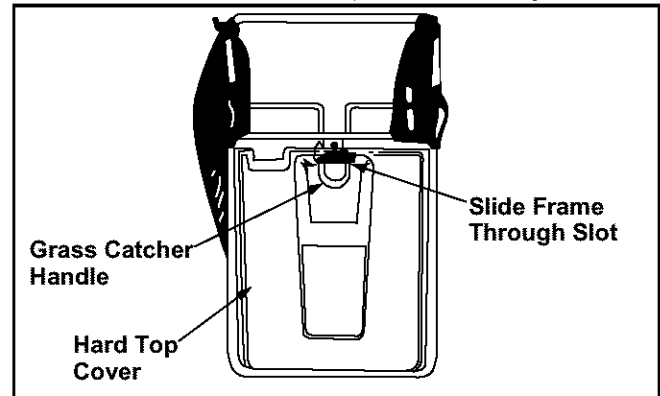

Figure 7
- Hold the bag and the frame so that the grass bag hangs from the frame and not bunched around it. Slide the handle on the grass catcher frame down into the slot in the hard top cover. See Figure 7.